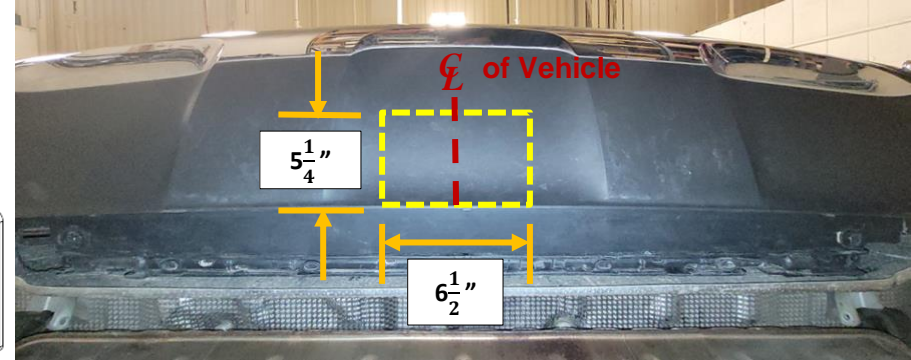

Figure 2
5. Trim fascia –Using a tape measure, marker, and die grinder, measure, mark, and trim the bottom cover as shown in **Figure 2**.